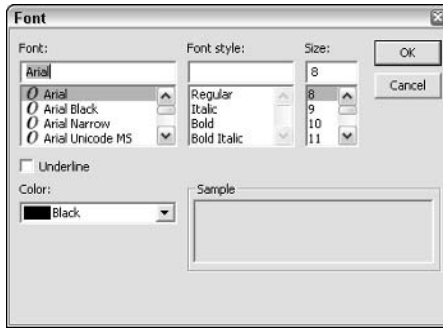

Figure 8-6: Project uses the standard Windows Font dialog box, so many settings are probably familiar.
3. Choose Format⇨Font to open the Font dialog box, shown in Figure 8-6. From the three lists across the top of this dialog box, you can select a new font, select a font style such as Italic or Bold (Regular is normal text that has neither italic nor bold applied), or change the font size. Select the Underline check box to apply underlining to text, or select a color from the Color drop-down palette. A preview of your selections appears in the Sample area.